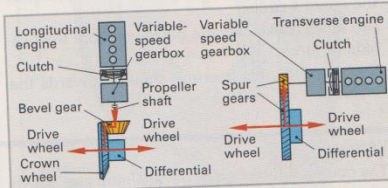

Fig. 3: Bevel-gear final drive, spur-gear final drive
- **Diverts the power flow, if necessary.** If the engine is installed in the vehicle longitudinal axis, the power flow must be diverted through 90° by a bevel-gear final drive because the drive shafts are always arranged transversally to the vehicle longitudinal axis (Fig. 3).